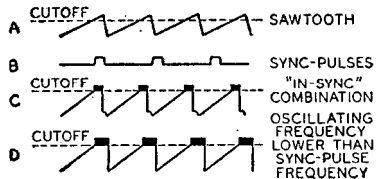

Fig. 71
across the capacitor  $C_2$ . A portion of this sawtooth is fed back to the grid of the control tube,  $V_1$ . The positive sync pulses are also applied to the grid of  $V_1$ . The waveforms shown in Fig. 71 illustrate the sawtooth and sync pulses (A and B) and their proper "in-sync" combination (C). The sync pulse occurs partly during the portion of the sawtooth voltage in which the triode  $V_1$  draws current. Any shift in sync pulse as it is superimposed
For example, waveform D in Fig. 71 illustrates a condition in which the sawtooth voltage is advanced in phase with respect to the sync-pulses. The widening of the pulse which occurs at the corner of the sawtooth waveform allows the control tube to conduct more current and, consequently, allows the capacitor  $C_1$  to charge to a higher voltage. This increased reference voltage also appears in the grid circuit of  $V_2$  and makes the grid more positive. The increased grid voltage then speeds up the